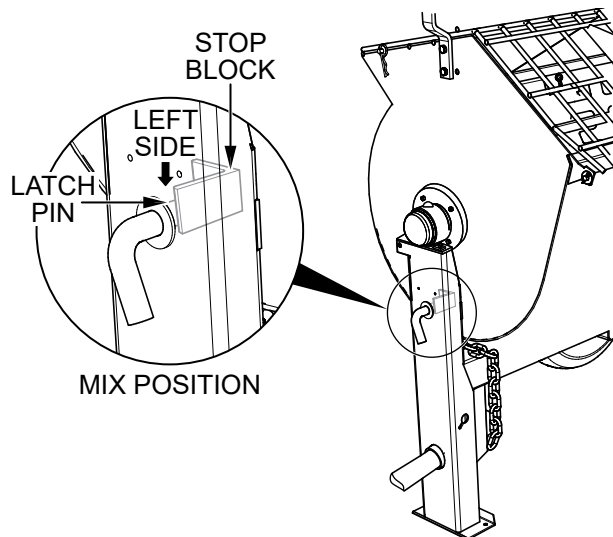

Figure 27. Drum Latch Pin (Mix Position)
1. Pull the drum latch pin (Figure 27) and place it on the **left side** (mix position) of the stop block.